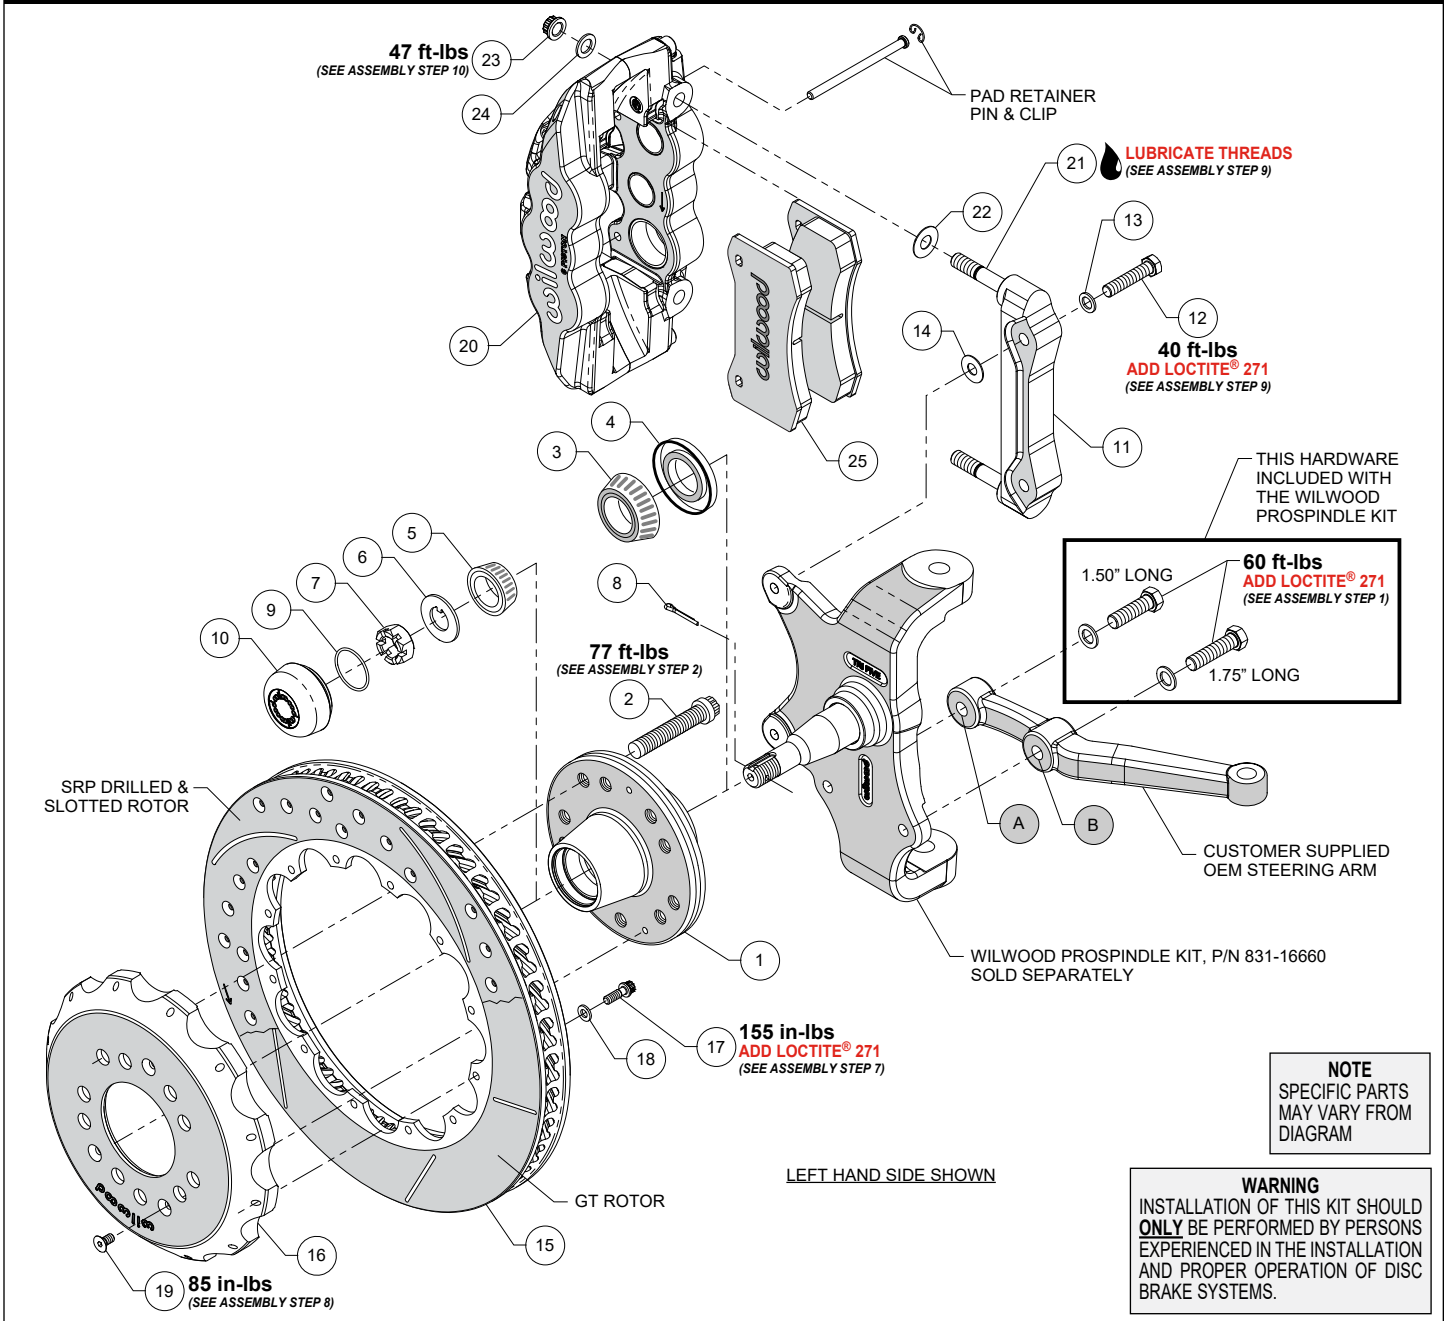
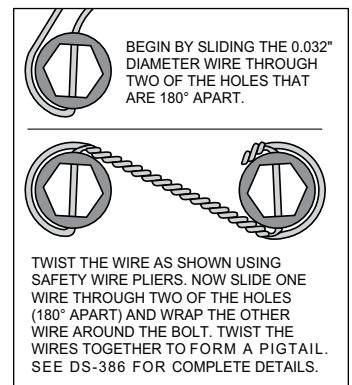

Figure 1. Typical Installation Configuration
Figure 3.
Numbers in parenthesis refer to the parts list and Figure 1 on the preceding pages.
•**NOTE:** Wilwood's ProSpindle kit (p/n 831-16660) includes bolts and washers to mount the steering arm (customer supplied) to the spindle. The various bolts are identified by length in the following instructions and in Figure 1.
STEP 1 Orient the steering arm, and identify the hole marked "A" as shown in Figure 1. Attach arm to spindle using 1.50" long bolt and washer (from ProSpindle kit), Figure 1. Finish attaching the steering arm through the hole marked "B", using 1.75" long bolt and washer (from ProSpindle kit), Figure 1. Temporarily tighten the mounting bolts. **NOTE:** The steering arm must fit squarely against the mounting points on the spindle. Inspect for interference from casting irregularities, machining ridges, burrs, etc. Remove bolts one at a time, apply red Loctite® 271 to threads, and torque to value shown in Figure 1.
STEP 2 Install wheel studs (2) from the backside of the hub (1), Photo 1. Torque to value shown in Figure 1. **NOTE:** There are two five lug patterns in the hub (5 x 4.50" and 5 x 4.75"). Ensure the correct hub stud pattern is being used to fit the wheel application.
STEP 3 Pack the large inner bearing cone (3) with high-temp disc brake bearing grease (available from your local auto parts store) and install into the backside of the hub (1), Figure 1 and Photo 2. Install the grease seal (4) by pressing into the backside of the hub (1), flush with the end of the hub.
STEP 4 Pack the small outer bearing cone (5) with high temperature disc brake bearing grease and install into the front side of the hub (1). Slide the hub assembly onto the spindle, Photo 3. Secure using spindle washer (6) and spindle nut (7). **Bearing adjustment:** Tighten the nut while turning the hub. When there is a slight bind on the bearings, they are seated correctly. Back the nut off about 1/6 to 1/4 of a turn, or sufficiently to allow .001" to .007" end play. **WARNING:** Failure to back off adjusting nut could cause bearing to run hot and be damaged, which could cause the wheel to lock or come off. Install cotter pin (8), Photo 4.
STEP 5 Screw dust cap (10) into hub (1), Photo 5. Friction created by the o-ring (9) on the dust cap keeps it from unscrewing. **NOTE:** The O.D. of the existing OEM spindle washer may be larger than the I.D. of the dust cap not allowing it to seat against the hub face. Therefore, use the spindle washer (6) supplied with the kit instead of the OEM washer.
STEP 6 The caliper mount bracket (11) should initially be installed with clean, dry threads on the mounting bolts. Orient the bracket as shown in Figure 1 and Photo 6, and install using bolts (12) and washers (13). Initially place one .035" thick shim (14) on each bolt between the bracket and spindle, Figure 1. Temporarily tighten the mounting bolts. **NOTE:** *The bracket must fit squarely against the mount bosses on the spindle.* Inspect for interference from casting irregularities, machining ridges, burrs, etc. Later, after the caliper alignment has been checked, the mount bolts will be secured using red *Loctite*® 271.
STEP 7 Orient the rotor (15) and the hat (16) as shown in Figure 1 and Photo 7. Attach rotor to hat using bolts (17) and washers (18). Apply red *Loctite*® 271 to the bolt threads and torque to value shown in Figure 1 using a criss-cross pattern. For an added measure of security, the bolts may be safety wired using standard 0.032 inch diameter stainless steel safety wire as shown in Figure 3. Please refer to Wilwood's data sheet DS-386 (available at www.wilwood.com/Pdf/DataSheets/ds386.pdf) for complete safety wire installation instructions.
STEP 8 Slide the hat/rotor assembly (16 and 15) onto the hub assembly. **NOTE:** *The hat must fit flush against the hub flange or excessive rotor run out may result.* Install set screws (19) to keep the hat/rotor assembly in place while continuing with the installation, Photo 8. Torque to value shown in Figure 1.
STEP 9 **NOTE:** *This kit contains distinct right and left hand calipers that must be mounted in a specific direction, as described below.* Lubricate the caliper mounting studs (21) with lightweight oil. Initially place one .030" thick shim (22) on each stud between the caliper and the bracket, as shown in Figure 1 and Photo 9. Mount the caliper (20) onto the bracket (11) using lock nuts (23) and washers (24), Figure 1. Temporarily tighten the lock nuts. Ensure that the caliper is mounted so the largest pistons are at the rotor exit end of the caliper, in relation to the forward rotation of the rotor. View the rotor through the top opening of the caliper. The rotor should be centered in the caliper, Photo 10. If not, adjust by adding or subtracting shims (14) between the bracket and the spindle. Always use the same amount of shims on each of the two mounting bolts. Once the caliper alignment is correct, remove the bracket mounting bolts (12) one at a time, apply red *Loctite*® 271 to the threads, and torque to value shown in Figure 1.
STEP 10 Remove the caliper from the bracket, then remove the caliper pad retainer clip and pin. Insert the brake pads (25) into the caliper from the bottom side, with the friction material facing the rotor, as shown in Photo 11. Mount the caliper and check that the top of the brake pad is flush with the outside diameter of the rotor. If not, adjust by adding or subtracting shims (22) between the caliper and the bracket. After the caliper pad height is set, reinstall the pad retaining pin and clip, Photo 12. Torque the caliper lock nuts (23) to value shown in Figure 1.